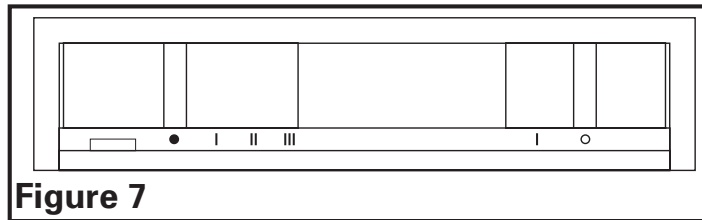

Figure 7
Your Range Hood is equipped with two sliding switches with one controlling the lighting and the other controlling the exhaust fan. The light control has two positions, ON (I) and OFF (O). The fan is a four position control, HIGH (III), MEDIUM (II), LOW (I), and OFF (●) (Figure 7).